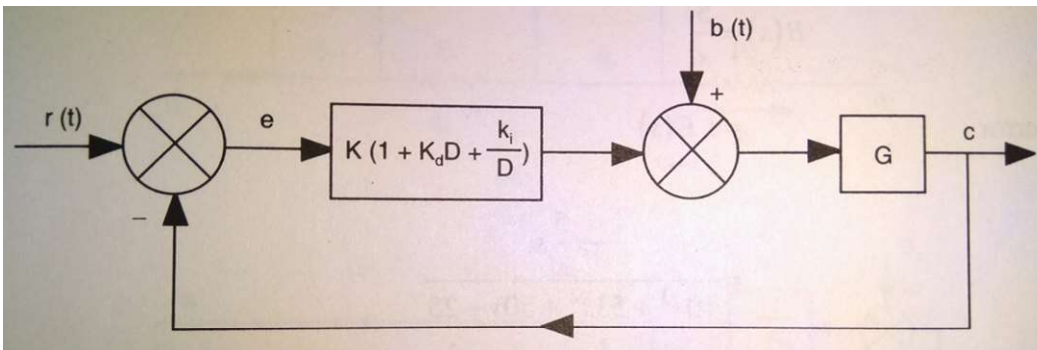

Fig. 2: Figure for Q. 10
a) For the system with block diagram as in Fig. 2,
b) For the system shown in Fig. 2, find the steady state error when $r = 2$ and $b = 0$.
(Internal Choice of Q. 12) Draw the closed-loop frequency response curve (polar plot) for the block diagram shown in Fig. 2. Take the physical parameters of the system as provided in Q. 10. Ignore disturbance $b(t)$.